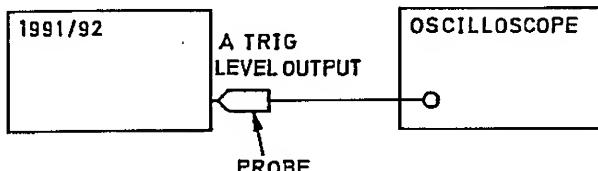
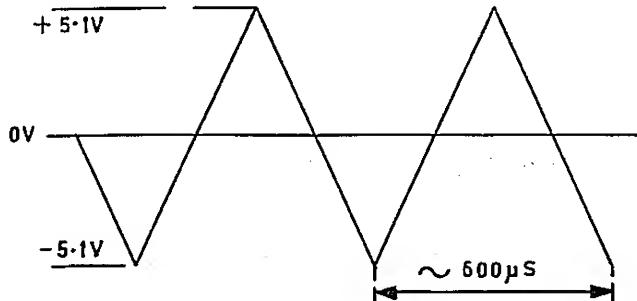

Fig 7.23 Connections for Trigger Level PVP
Fig 7.24 Trigger level Waveform
61 (1) Connect the test equipment as shown in Fig 7.23.
(2) Select DC coupling of the oscilloscope input.
(3) Set the oscilloscope to monitor a waveform of approximately 12 V peak-to-peak with a frequency of approximately 2 Hz.
(4) Select CHECK.
(5) Press **7** **6** **SHIFT** **STORE** **SF** **SHIFT** **SF**
(6) Verify that the channel A and B TRIG indicators are flashing, and that the displayed waveform is as shown in Fig 7.24.
(7) Transfer the oscilloscope probe to the channel B TRIG LEVEL OUTPUT pin and verify that the same waveform is displayed.
(8) Press **7** **0** **SHIFT** **STORE** **SF** **SHIFT** **SF**
(9) Disconnect the test equipment.